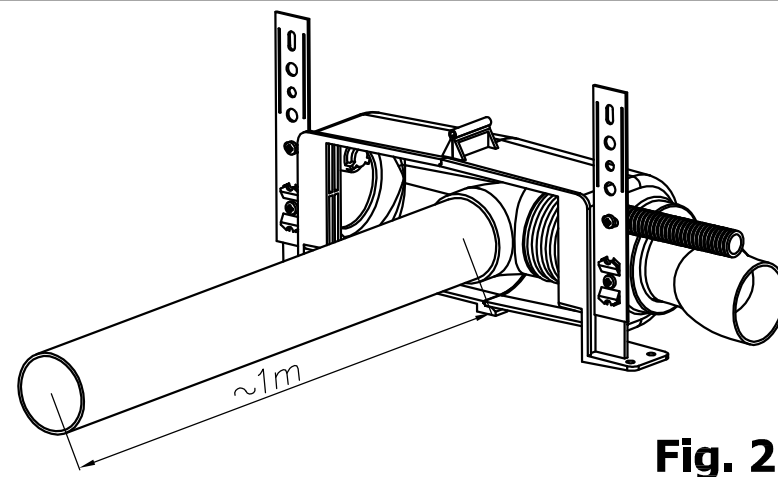

Fig. 2
6. The connection of the dustpan must be glued with utmost accuracy. Glue the connection 4 with a suction pipe (see point no. 1). Consider the space necessary to go through the box 2 in order to match with each other connection elbow axis with dustpan axis. For this purpose, use an additional 1-meter suction pipe (inserted into dustpan connection elbow). Arrange the pipe perpendicularly to a main pipe and parallelly to floor (see Fig. 2).